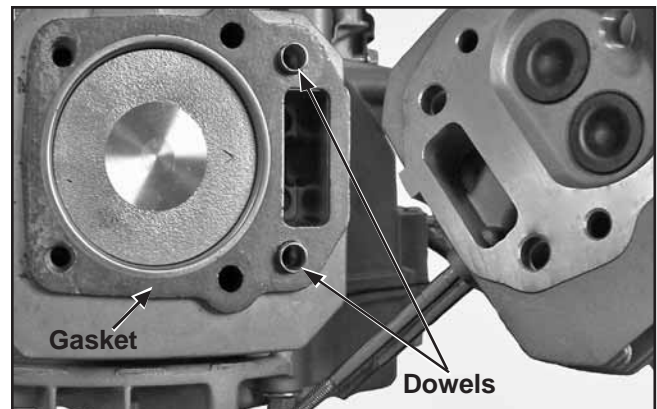

Figure 10-17. Installing Cylinder Dowels.
2. Using the two cylinder head dowels as a guide, install a new head gasket. See Figure 10-17.